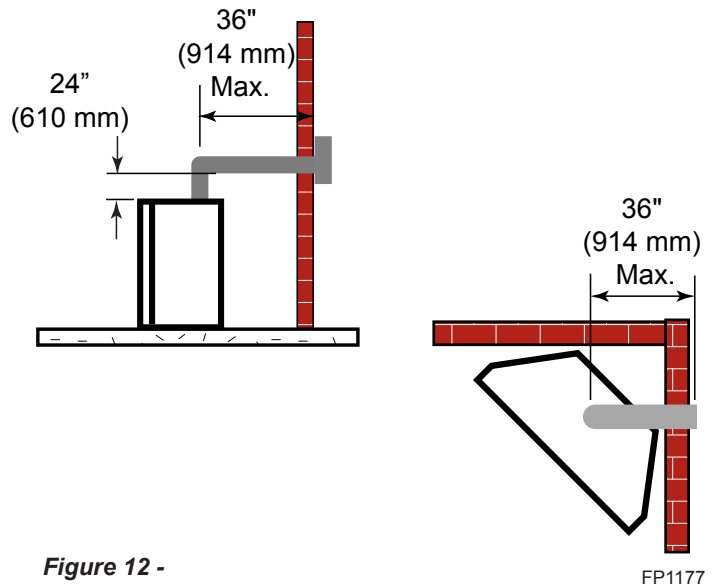

Figure 12 - Maximum Horizontal Run with No Rise
- A minimum of 24" is required before a 90° elbow. If a 90° elbow is fitted directly after 24" vertical section mounted to the top of the fireplace, the maximum horizontal vent run before the termination or a vertical rise is 36" (914 mm). *Figure 12*